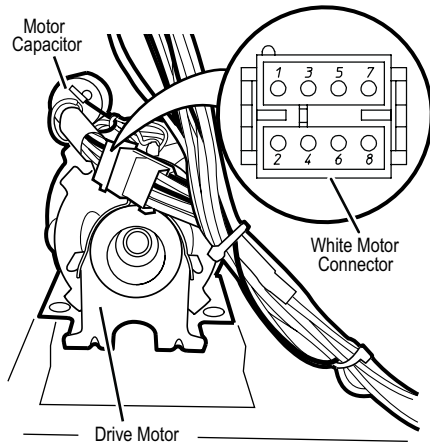

Figure 4. Disconnect the white motor connector.
5. Disconnect the white motor connector from the drive motor. See Figure 4.
7. Check the resistance value of the motor's Main winding coil by contacting points 7 and 8 of the white motor connector, as shown in Figure 4.